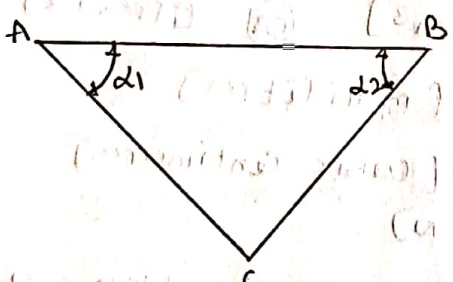

Fig. 2c
- c) By measuring two angles say α_1 and α_2 (Ref Fig. 2c)